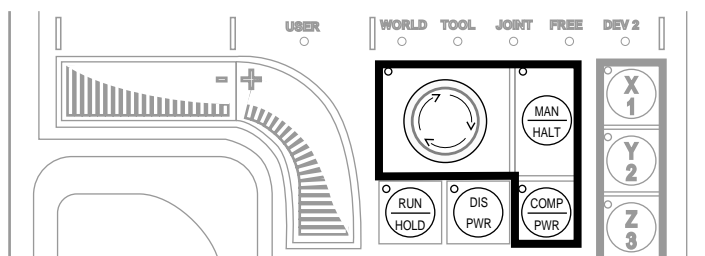

Figure 4-4. Mode Control Buttons
2. Press the MAN/HALT button (see Figure 4-4) several times until the JOINT LED is illuminated.